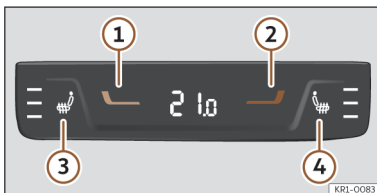

Fig. 103 In the centre console, rear section: controls for the rear seats.
- Press buttons ① and ② >>> **Fig. 103** to adjust the temperature of the rear zone.
- By tapping buttons **③** and **④** on the rear seat controls located at the back of the centre console >>> **Fig. 103.**